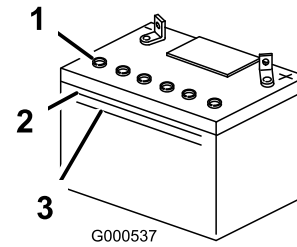

Figure 51
not allow the electrolyte to fall below the lower line (Figure 51).
3. Look at the side of the battery. The electrolyte must be up to the **upper** line (Figure 51). Do
5. Remove the vent caps from the battery (Figure 51).
6. Slowly pour distilled water into each battery cell until the electrolyte level is up to the Upper line (Figure 51) on the battery case.
7. Wait 5 to 10 minutes after filling the battery cells. Add distilled water, if necessary, until the electrolyte level is up to the Upper line (Figure 51) on the battery case.